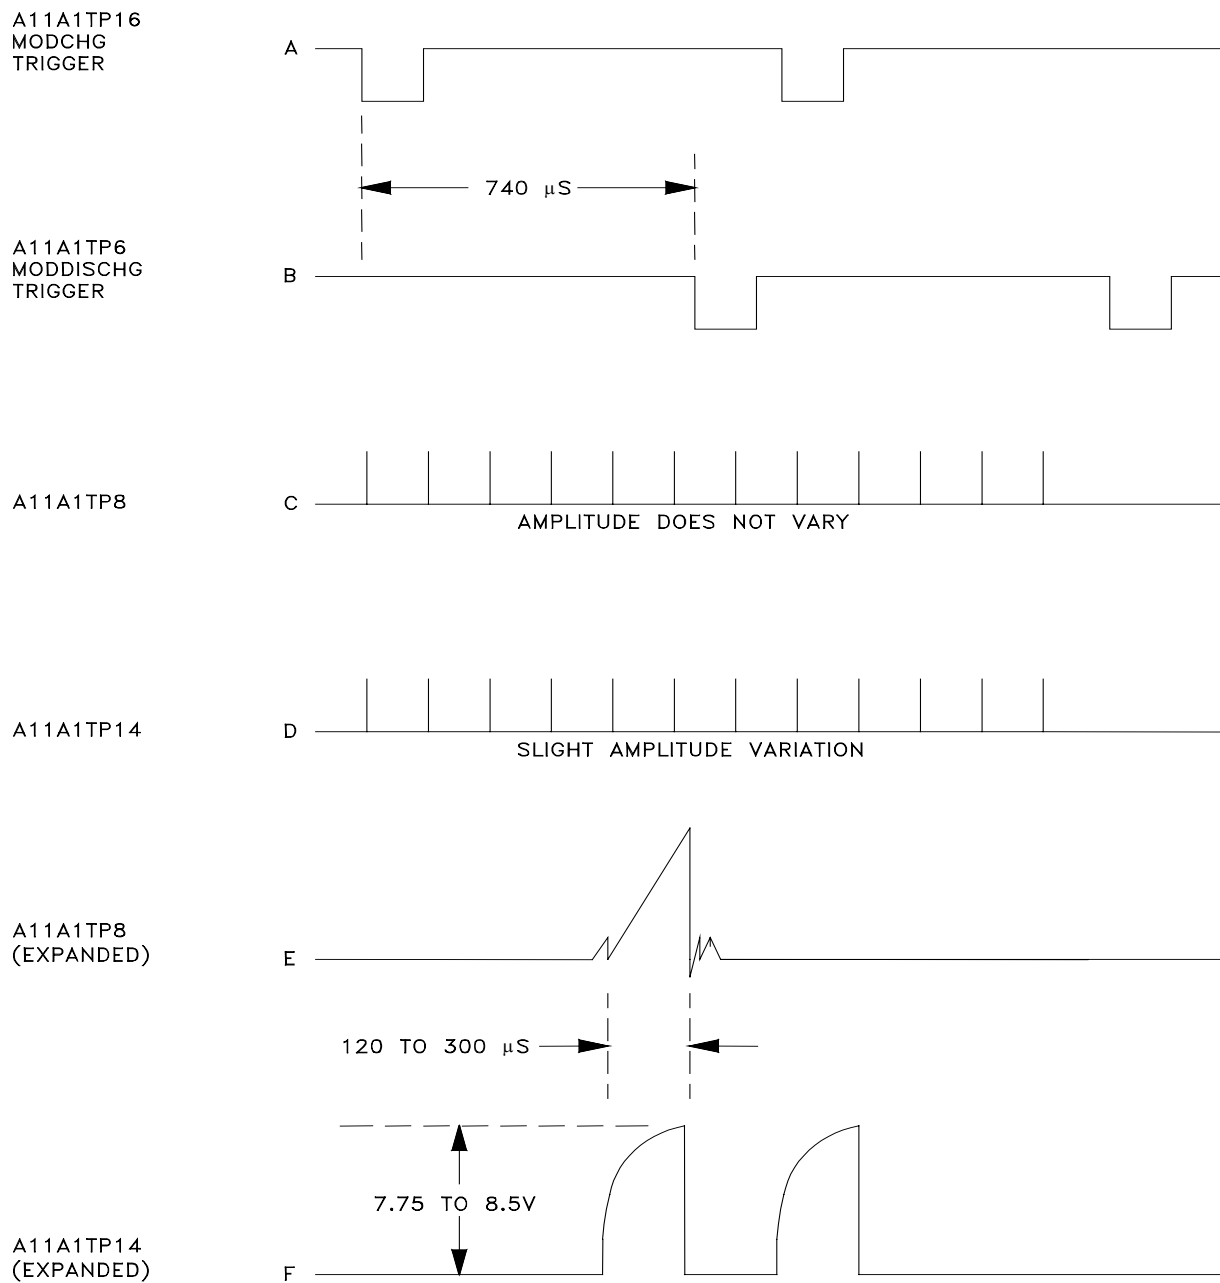

Figure 7-3. Trigger Amplifier A11 Pre-Installation Checks Waveforms
- e. Expand triggers for a presentation with no jitter or lines going through presentation as shown in figure 7-3, examples A and B.
- c. Observe the primary current (A11A1TP8) and RBDT stack voltage (A11A1TP14) for uniformity in voltage as shown in figure 7-3, examples E and F.
- d. Expand waveforms E and F as shown in figure 7-3.